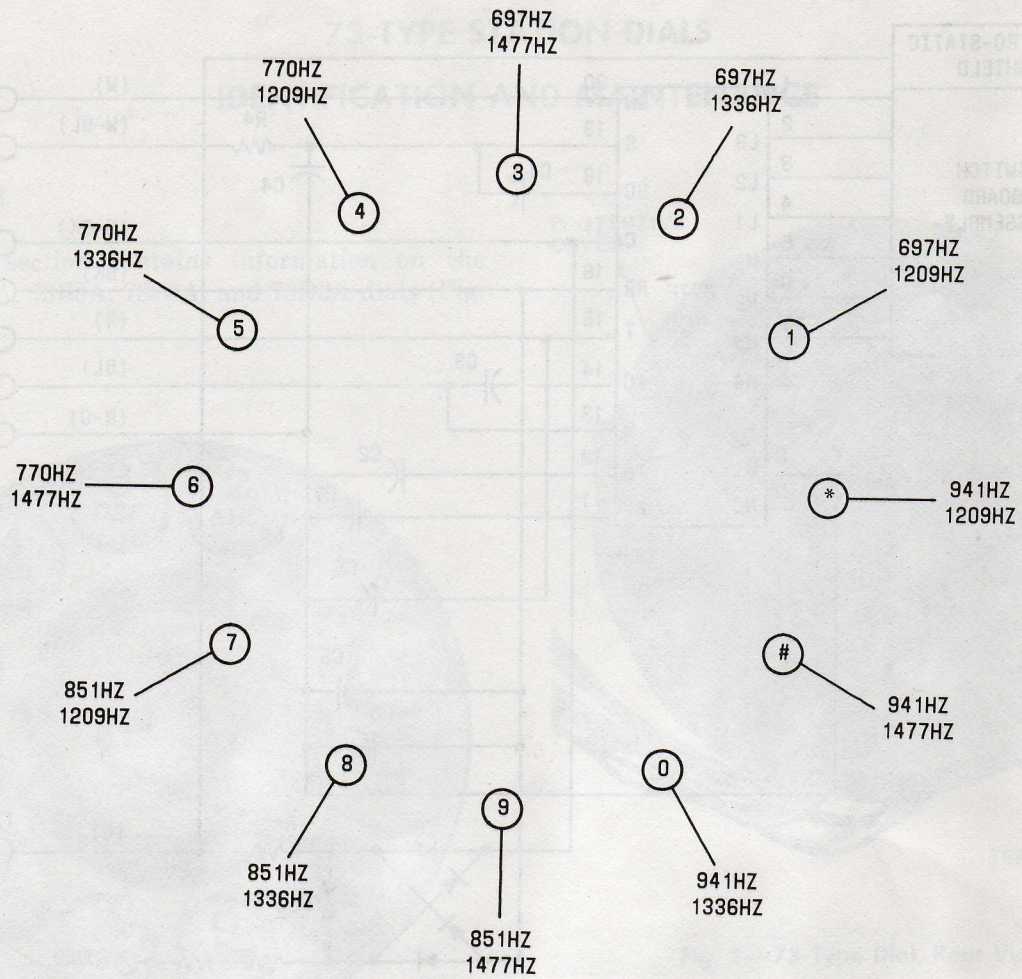
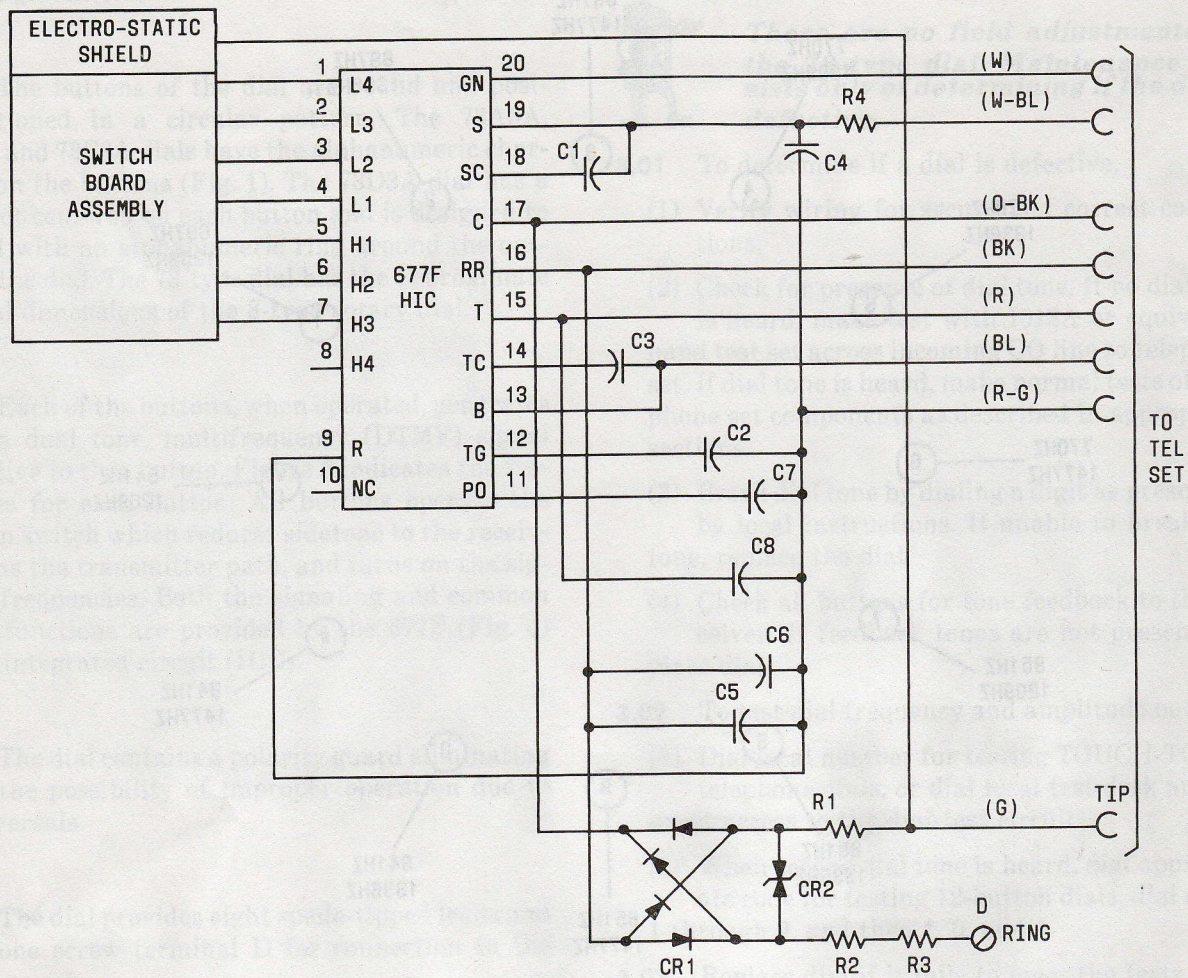

Fig. 3—Dial Frequencies
Fig. 4—73-Type Dial Schematic
2.04 Each of the buttons, when operated, generates a dual tone, multifrequency (DTMF) signal distinctive to that button. Figure 3 indicates the frequencies for each button. All buttons operate the common switch which reduces sidetone to the receiver, opens the transmitter path, and turns on the signaling frequencies. Both the signaling and common switch functions are provided by the 677F (Fig. 4) hybrid integrated circuit (HIC).